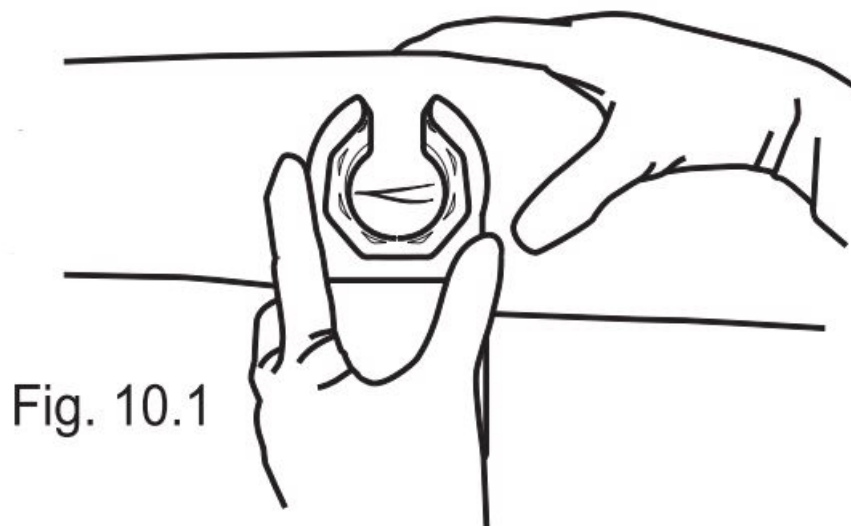

Fig. 10.1
- To access the veins move the device on the skin with LEDs on, across & forth until a specific vein is visualized clearly. (**See Fig.10.1**)